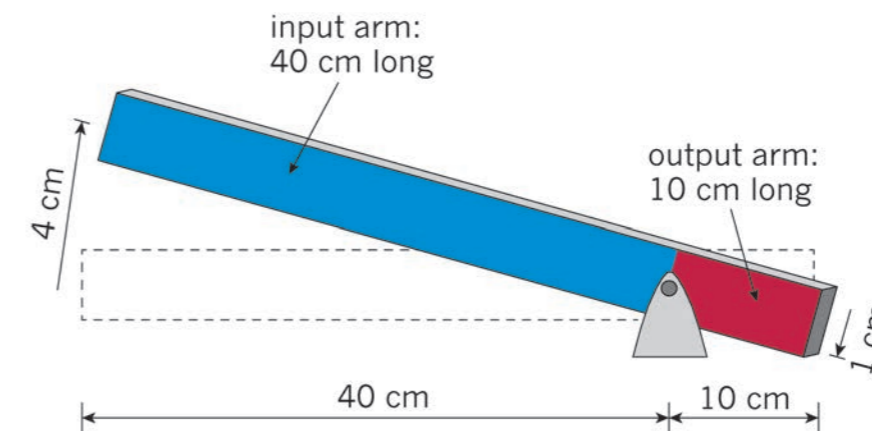

Figure 2: This lever has two arms, an input arm in blue and an output arm in red.
Look at the lever in Figure 2. This lever is making the output force bigger, so you can say that it is giving us a mechanical advantage. There are two “arms” on a lever: the **input arm** and the **output arm**. The lever below shows the input arm in blue and the output arm in red.
4. Now you can confirm what you have already worked out. Use the values in Figure 2 to calculate the ratio of the length of the output arm to the length of the input arm.
5. Use the values in Figure 2 to calculate the ratio of the output distance to the input distance.